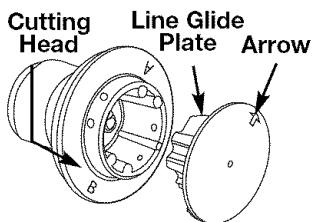

Fig. 15
- Turn the knob counterclockwise to loosen the coupler (Fig. 15).
3. Reinstall line glide plate (Fig. 15). Align arrow with: